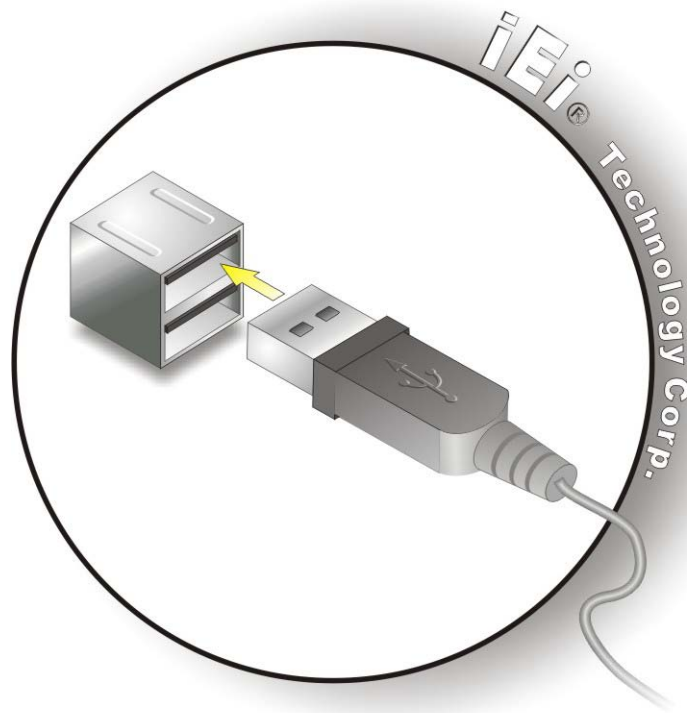

Figure 3-33: USB Device Connection
- Step 2: Align the connectors.** Align the USB device connector with one of the connectors. See **Figure 3-33**.